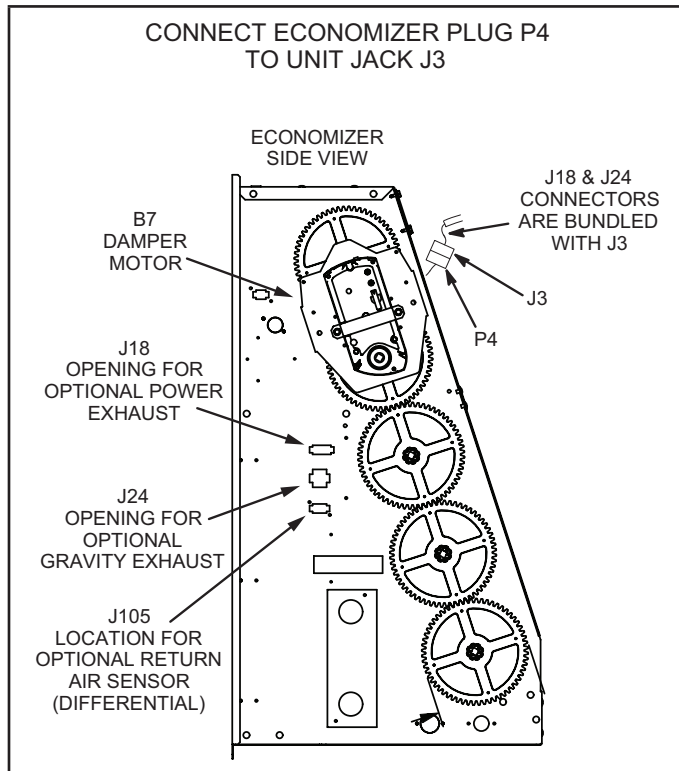

FIGURE 5
- 7 - Connect economizer plug P4 to unit jack J3 hanging near the top of the filter section. See FIGURE 5.
- 8 - Optional Power and Gravity Exhaust - Locate J18 and J24 connectors bundled with J3. Insert connectors in openings shown in FIGURE 5.